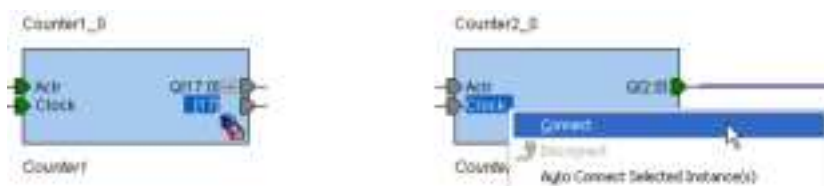

Figure 1-20 • Connecting a Sliced Port to a Clock Input
18. Click the **+** sign on **port Q** of **Counter1_0** to expose the slice created in the previous step. Connect port **Q[17]** of **Counter1_0** to the clock input (**Clock**) of **Counter2_0** (Figure 1-20).